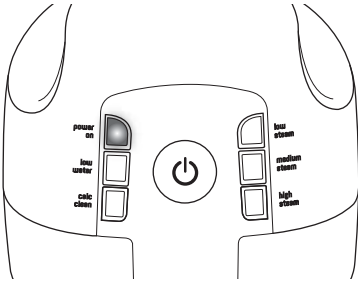

Figure 1
2. Select the power button to turn the unit on. The Power On light illuminates RED as shown in Fig 1. The boiler and soleplate will begin heating and the low steam selection light flashes BLUE.